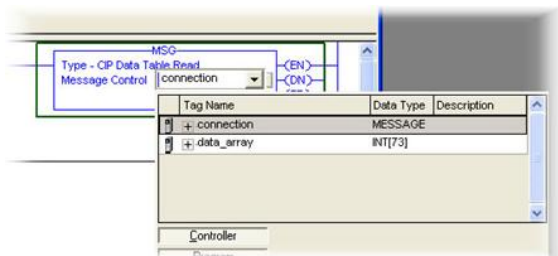

Figure 55: MSG Instruction Tag Assignment
a) Edit the "Message Control" field on the MSG instruction to use the previously-created "connection" tag. Refer to Figure 55.